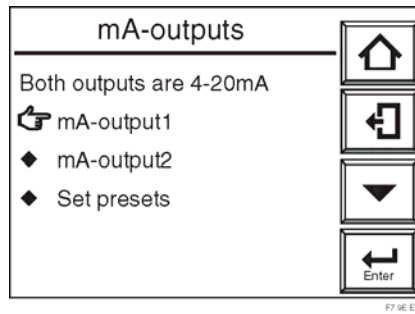
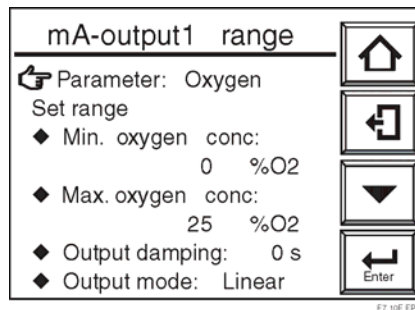

Figure 7-11 Selecting “mA-output1”
Figure 7-12 Setting “mA-output1 range”
3. Select “mA-output1” on the “mA-outputs” display screen shown in Figure 7-11. The “mA-output1 range” display is shown in Figure 7-12.